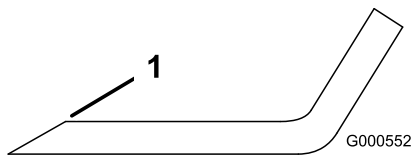

Figure 57
- Use a file to sharpen the cutting edge at both ends of the blade (Figure 57).
Note: If the blade is not balanced, file some metal off the end of the sail area only (Figure 57).